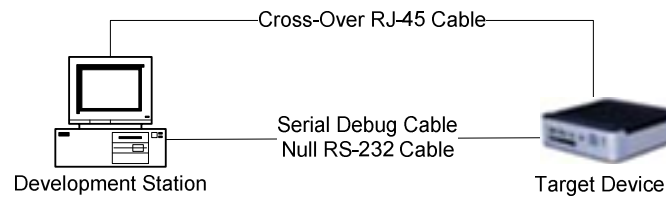

Fig. B1
1. A cross-over RJ-45 Ethernet cable is connected between the target device's Ethernet port and the development workstation's Ethernet port, as shown in Figure B1.